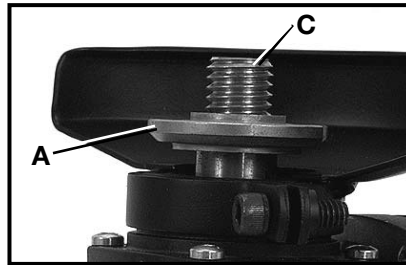

Fig. 5
4. Position inner flange (A) Fig. 5, onto spindle (C), with round hub facing outward, away from machine. Rotate flange until it drops into place on the spindle.